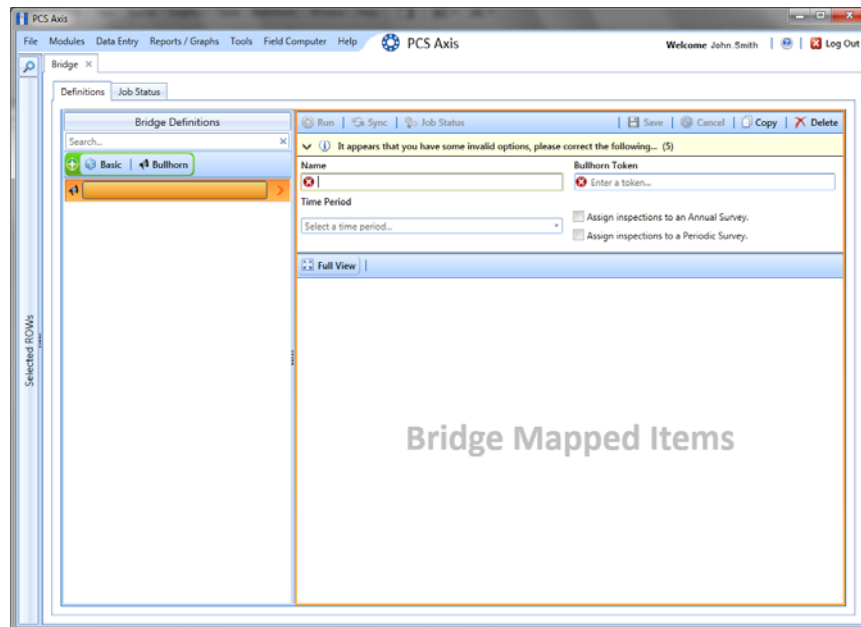

Figure 9-45. Bullhorn Definition Panel
- 3 Click  **Bullhorn** to open the Bullhorn definition panel (Figure 9-45).